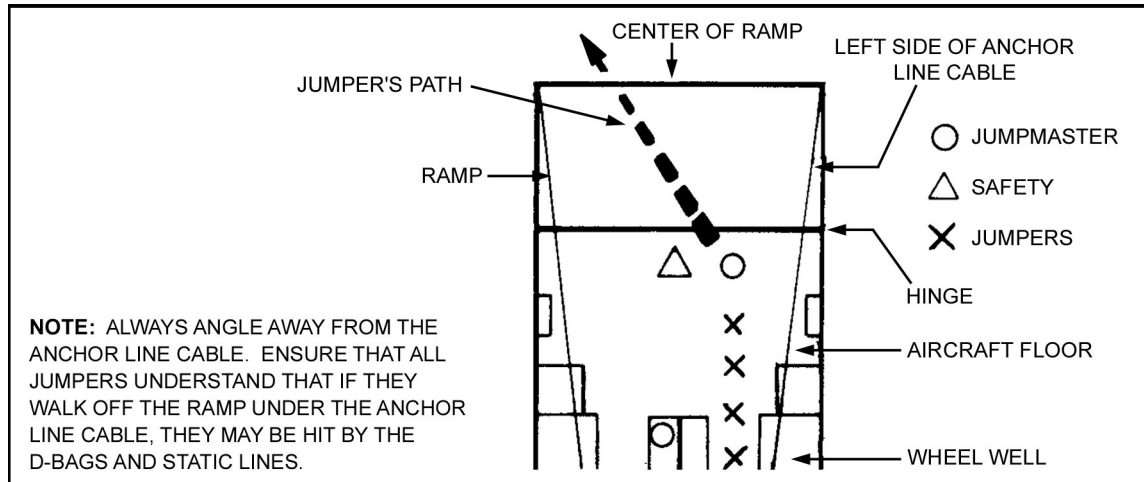

Figure 16-6. Personnel locations.
(3) Door check is not required. If using GMRS, the PJM must spot the ground marking from the left side of the ramp.
(4) After giving the command STAND BY, the JM moves to the center edge of the ramp and exits on green light. The safety positions himself immediately behind the hinged portion of the ramp and controls the flow of parachutists.
(5) Each parachutist walks off toward the center of the ramp at an angle away from the anchor line cable (Figure 16-6).